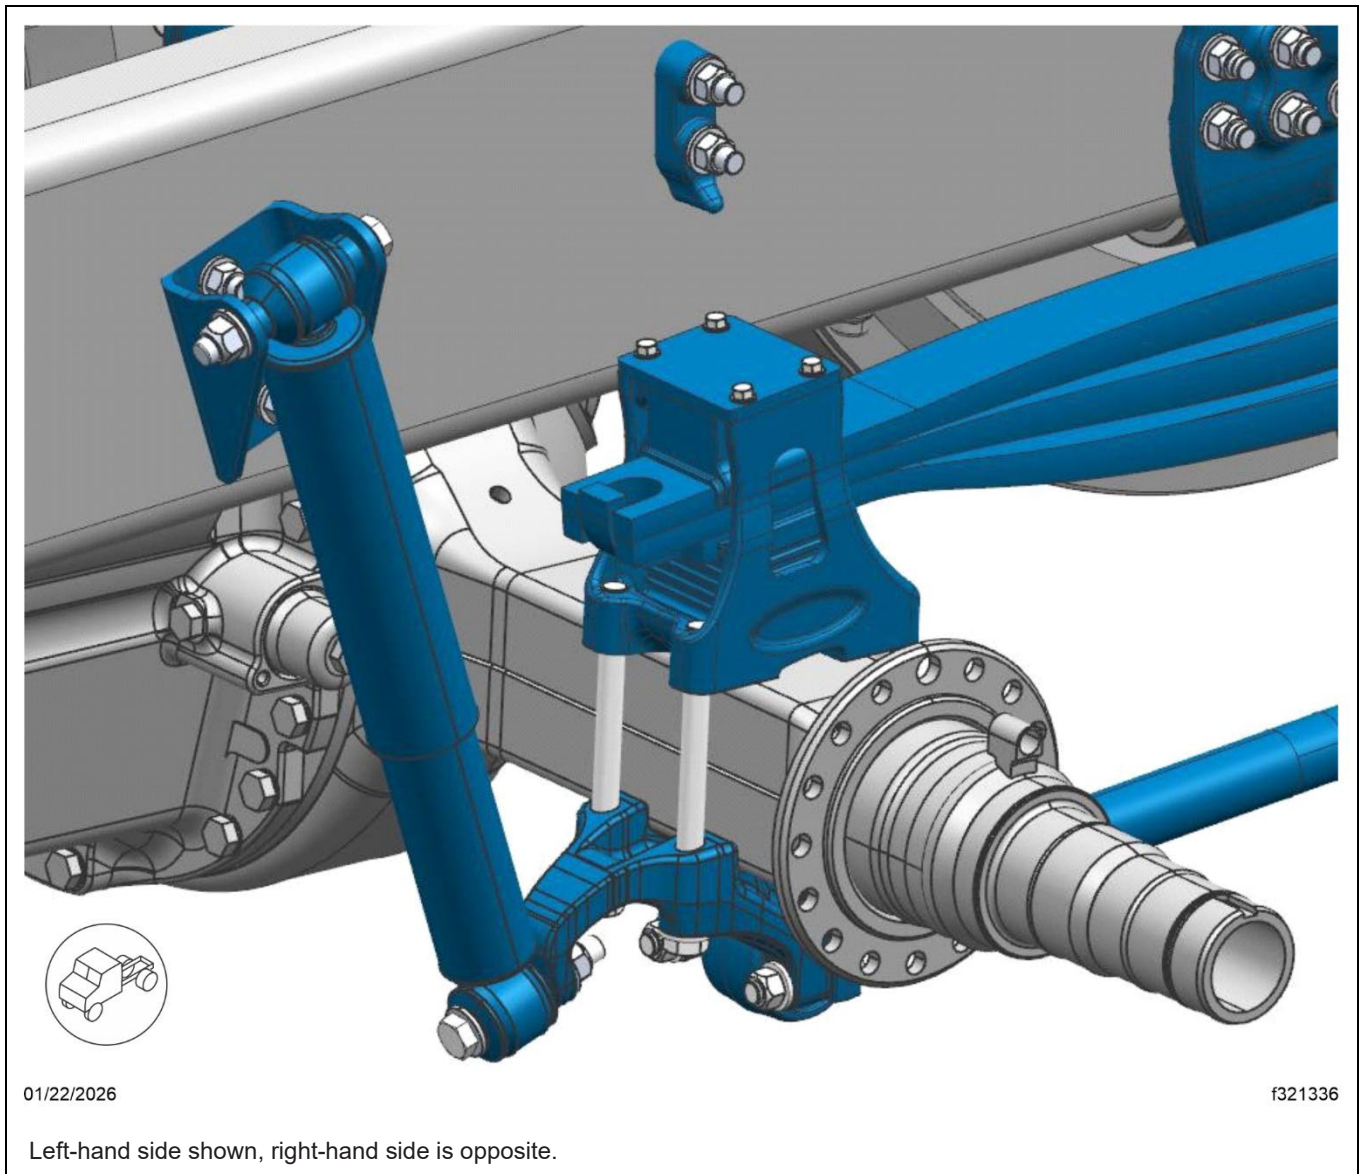
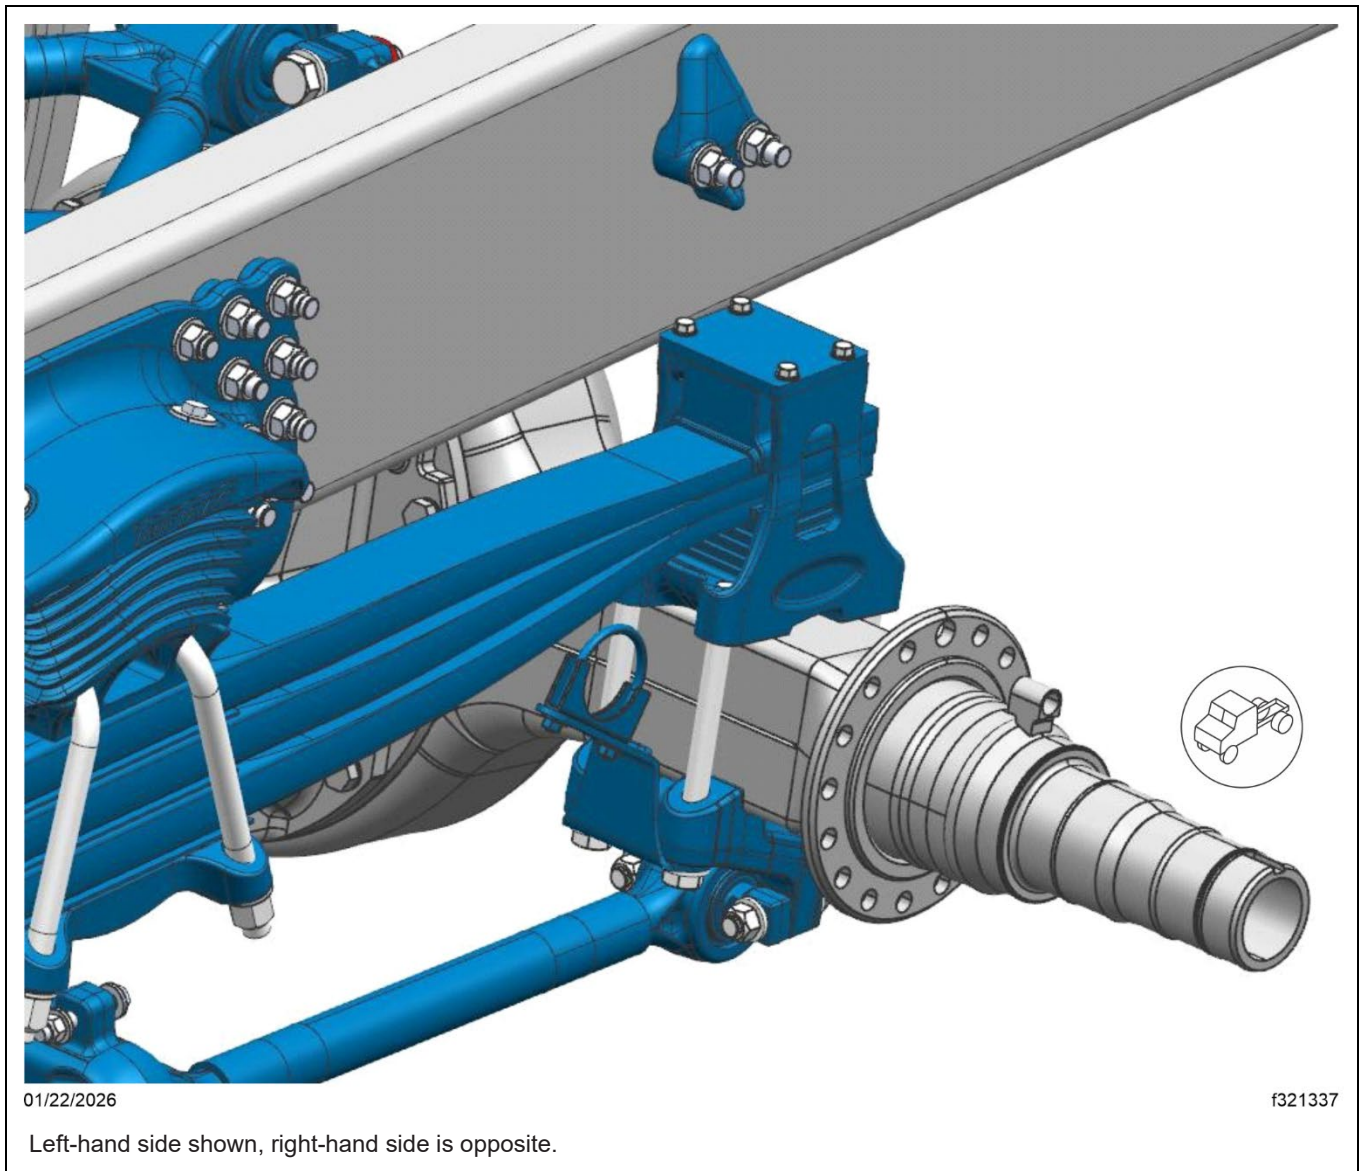

Fig. 1, Clamp Group, Forward Drive Axle
Fig. 2, Clamp Group, Rear Drive Axle
6. Inspect the clamp group for damage and to verify the torque. See Fig. 1 and Fig. 2.